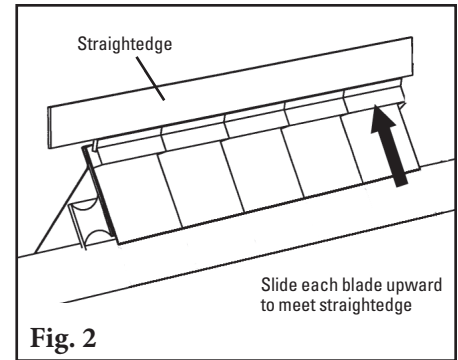

Fig. 2
- 2. Choose the tensioner position.** The tensioner is shipped mounted in the push-up position. Depending upon the space constraints of the installation, the tensioner can be optionally mounted in a pull-up position. To do this, loosen the threaded rod lock nut, unscrew the threaded rod and remove adjusting bracket lock bolt. Then move the adjusting bracket and threaded rod to the top of the clamp blocks (Fig. 2) and tighten threaded rod lock nut.
2. **Align the blade tips.** Push tips together so there is no more than a .010–.015" (.25–.38 mm) gap between them. Position a straightedge along the top surface of new blade tips. Pull upward on each blade to align with the bottom of the straightedge and tighten the nuts (Fig. 2).